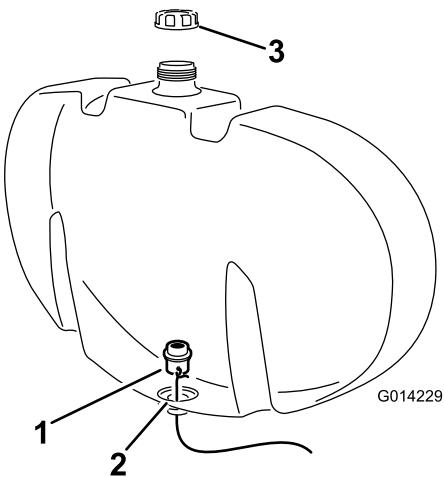

Figure 3
- C. Use the wire to guide the bulkhead to the open hole in the bottom of the tank (Figure 3).
F. Move the bulkhead into position, ensuring that the O-ring seats against the interior wall of the rinse tank (Figure 3).